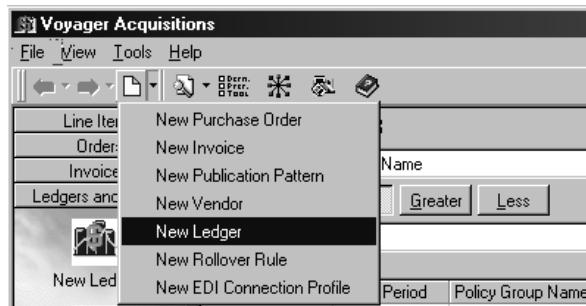

Figure 5-8. New Item button selected on the toolbar - list displayed
- You can also click the down arrow beside the **New Item** button on the toolbar and then select **New Ledger** from the list (see Figure 5-8).